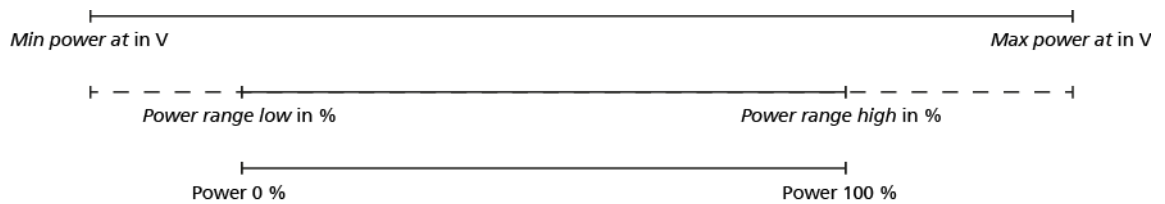

Figure 9.3: Voltage to percentage mapping for power
InScript maps the voltage to a percentage; see also figure 9.3 on page 114 .
3. In Power range low and Power range high, you can restrict the percentage to a range that is mapped to a range from 0 to 100 % again; see also figure 9.3 on page 114 . The latter percentage is used when setting